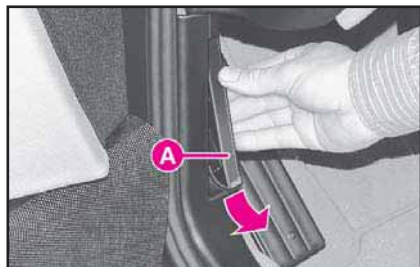

fig. 212
- 2) Pull lever A (fig. 212) in the direction shown by the arrow.